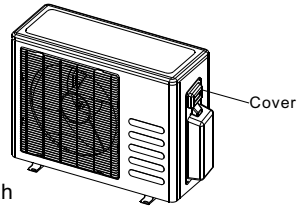

Fig 32
1. Remove the electrical control board cover from the outdoor unit as shown in Fig. 32.